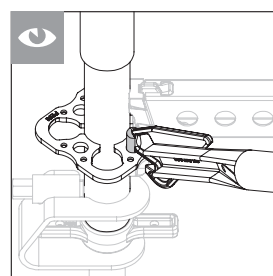

Fig. A4.11b
2. Insert dowel pin (**24.3**) into the brace adapter (**12.3**). (Fig. A4.11b)
Are all dowel pins and spring bolts properly engaged? (Fig. A4.11b, A4.11e)